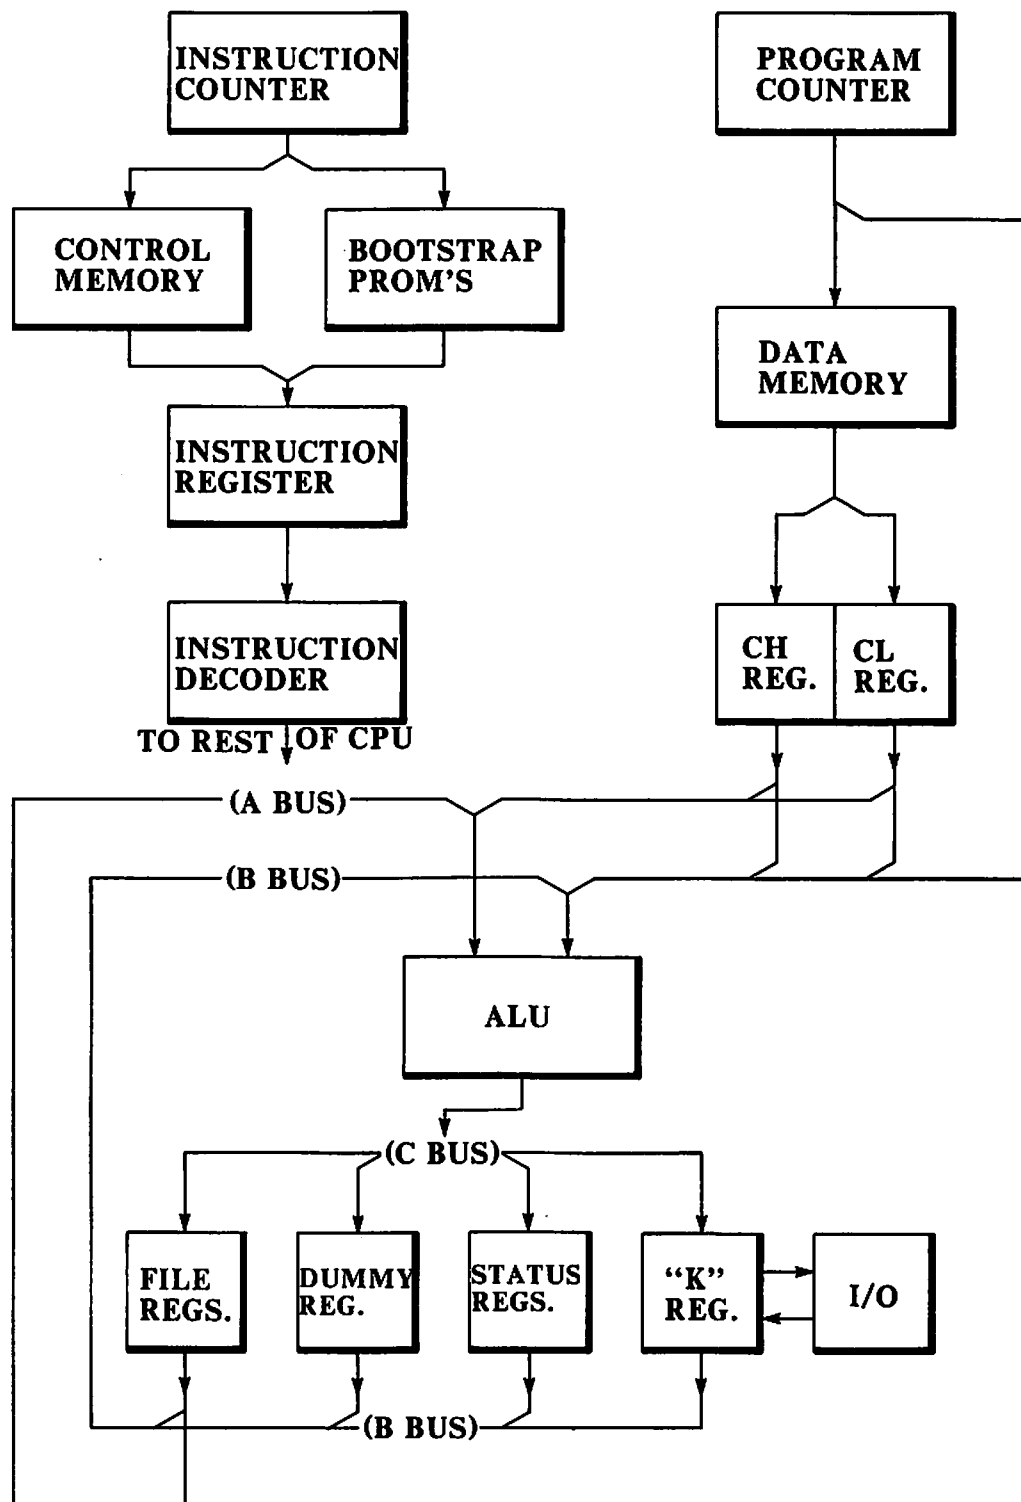

FIGURE 5-1 2200LVP BLOCK DIAGRAM (BASIC)
5.3 2200LVP CPU BLOCK DIAGRAM THEORY--BASIC (ref: FIGURE 5-1)